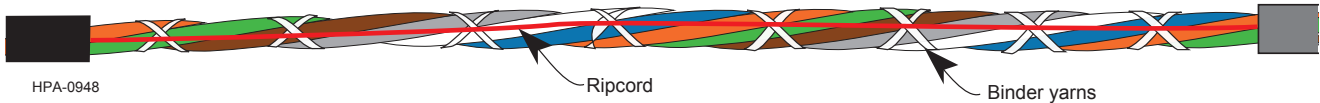

Figure 15
Step 5: With your fingers, remove the 6 in (15.25 cm) section of outer jacket to access the ripcords and yarns (Figure 15).